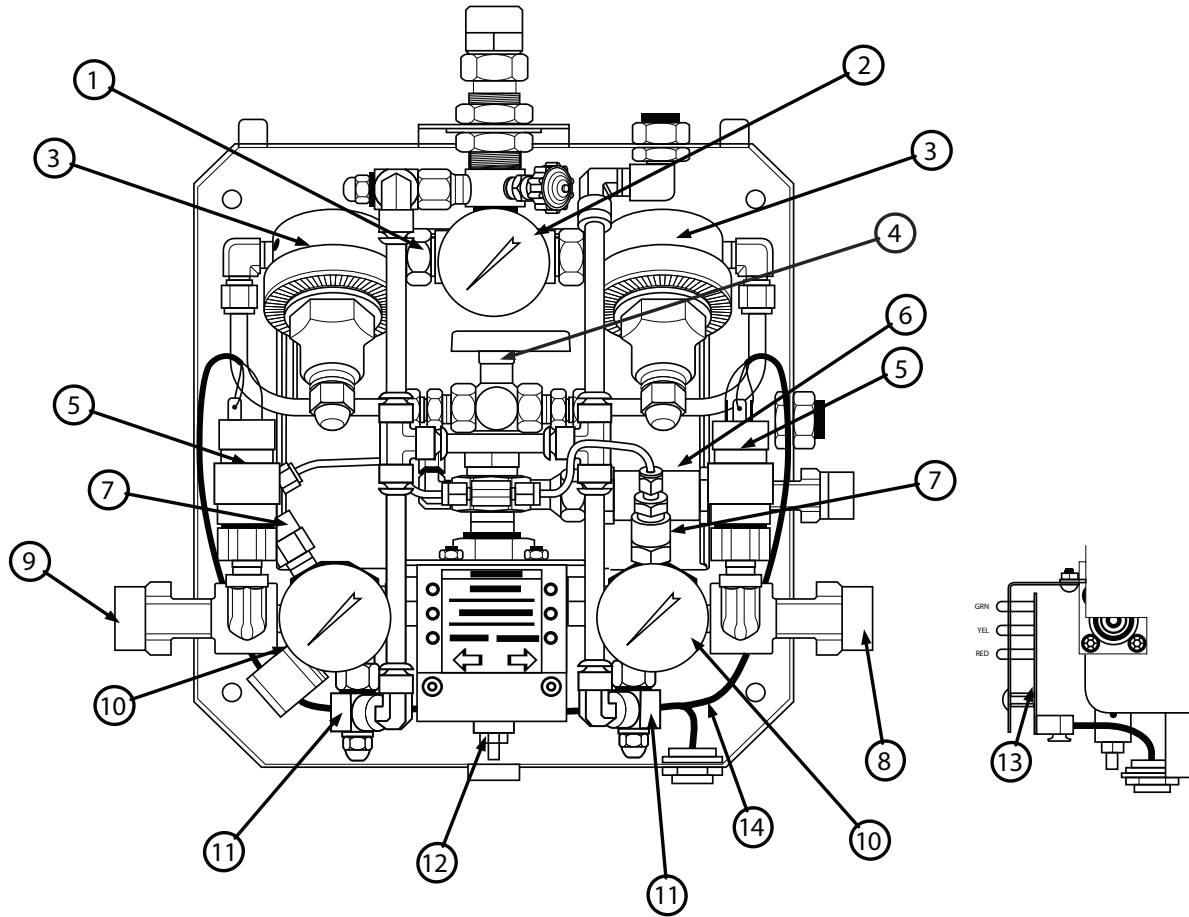

Figure 7: Component Location
1. Use a 1/2" open-end wrench to force the collar back on the quick-connect fitting where the relief valve plastic tube is inserted and pull the plastic tube out. See Figure 7.